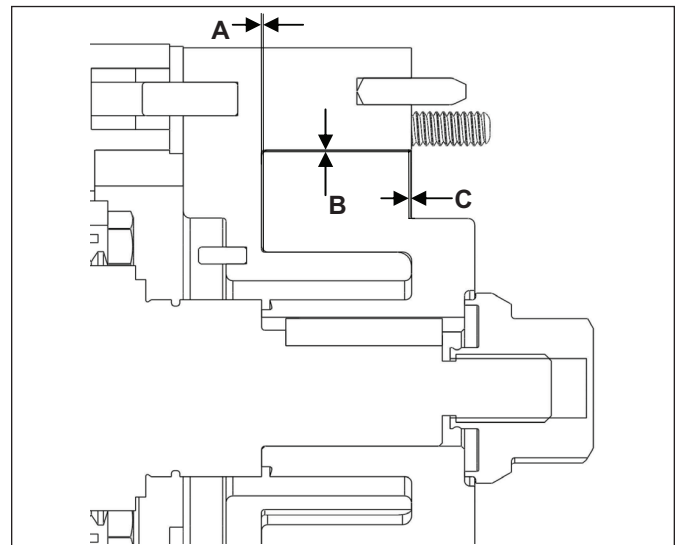
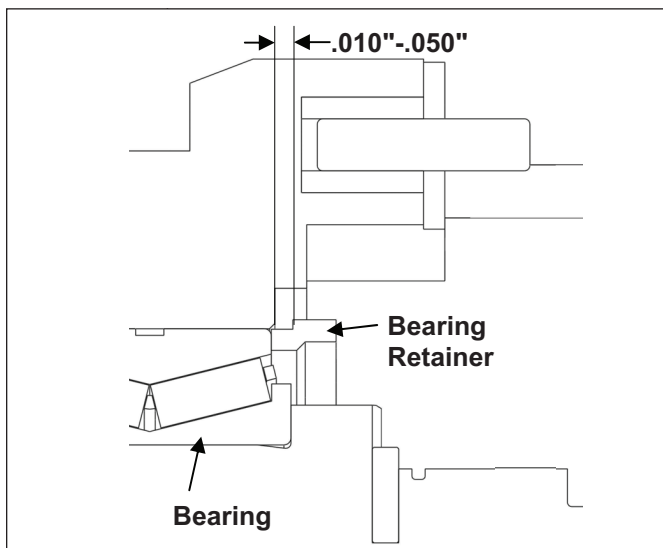

Figure 41. Important Clearances
Figure 40. Bearing Retainer Clearance
- Once the shafts are pressed into the gear case, install the bearing retainers to hold the shafts in place temporarily (do not install liquid sealant). Ensure there is proper clearance between the retainer and the gear case, as seen in *Figure 40*. Place the body on the gear case, making sure it is seated correctly. Assemble the rotors into the body and tighten down using the jam nuts. Measure dimensions A, B, and C seen in *Figure 41* and refer to *Table 10* on *page 37* to verify the clearances. If clearances are not correct, the shafts must be removed and the shims will need to be adjusted. If the clearances are correct, remove the rotors and body.